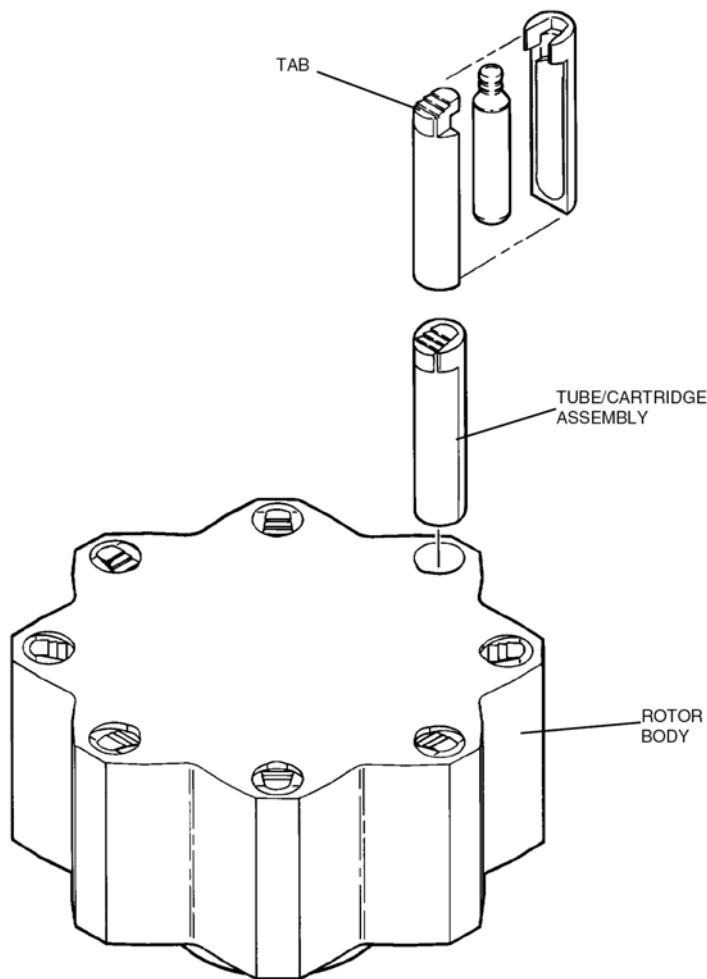

Figure 4-3. Proper Installation of the Tube/Cartridge Assembly
4. Place a filled cartridge assembly into each through hole, balancing the rotor as explained on page 4-1. A cartridge assembly is properly positioned in the rotor when the tab on the cartridge is facing toward the center of the rotor body and the top of the cartridge is seated slightly below the top surface of the rotor body. (See figure 4-3.)
Each time a STEPSAVER™ Rotor is used, record the run in the log book as shown in Figure 4-3, Sample Centrifuge/Rotor Log Sheet.